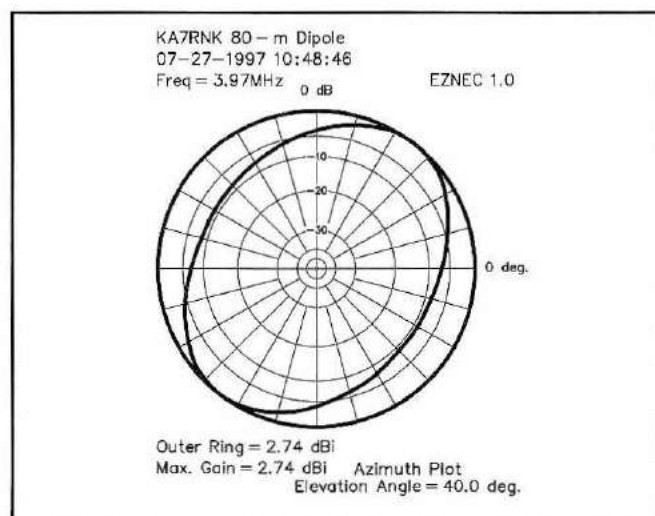

Fig 1-42—The azimuth radiation pattern of KA7RNK’s 80-meter dipole as modeled by EZNEC.
**A**The way you’ve configured your 80-meter antenna system makes the best use of your present space. Using EZNEC to model your system, the resulting azimuth radiation pattern is not as bad as you might think (see Fig 1-42).